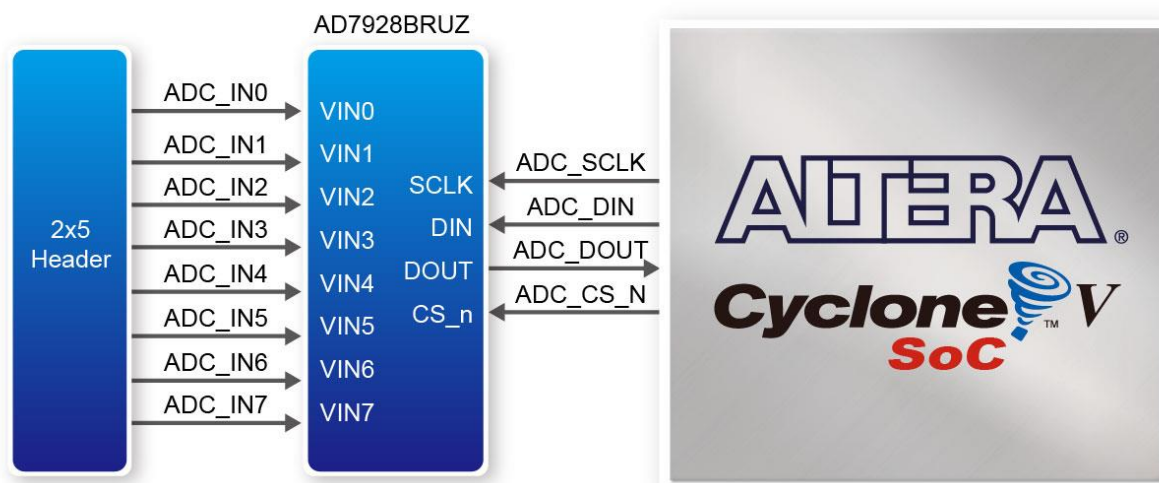

Figure 3-30 Connections between the FPGA, 2x5 header, and the A/D converter
**Figure 3-30** shows the connections between the FPGA, 2x5 header, and the A/D converter.